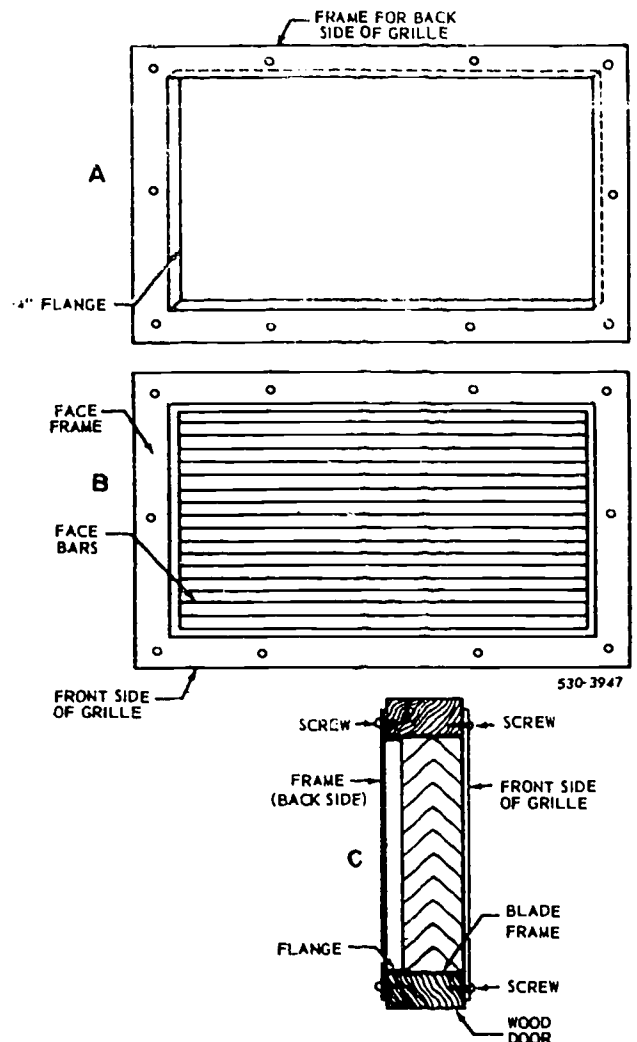

Figure 3-14. Door return grille.
**Grilles.** Several types of grilles may be used if directional airflow is not important. Grilles do not have adjustable blades or louvers. They cover the return air openings of ducts and are installed in doors or walls for ventilation. Figure 3-14 shows a grille installed in a door. The blades in this type of grille allow air to pass but limit sound and sight. Grilles are usually factory-made, though some of the simple designs can be made in the shop. View B in figure 3-14 is the front side of the grille and shows the face frame and face bars. View C is a side view showing the shape of the blades, which are held in place by the blade frame. Notice that the blade frame is inserted into a cutout made in a door and held in place with screws.